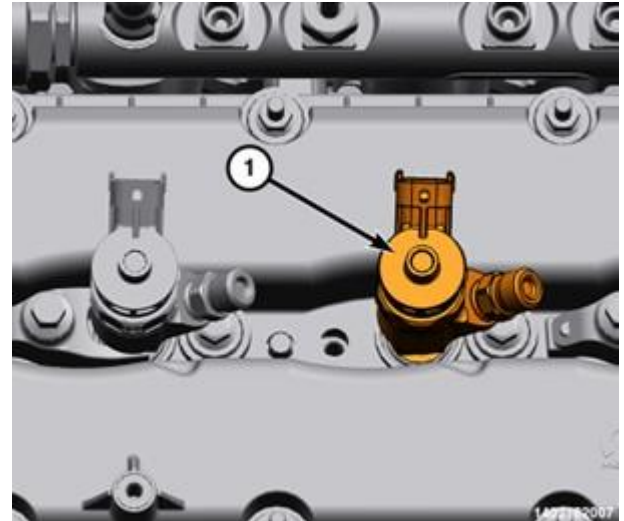

Figure 143 – Fuel Injector Bolt
- 88. Install the fuel injector (1) in the cylinder head (Figure 143).